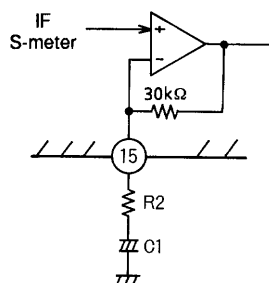

Figure 5
- In the technique in which the S-meter AC component is detected directly the noise amplifier gain is determined by R_2 and the internal $30\text{ k}\Omega$ resistance as shown in Figure 5. A certain degree of filtering characteristics can be provided with capacitor C_1 .